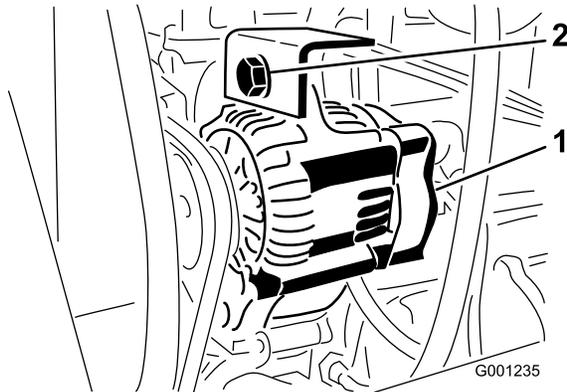

Figure 75
2. Loosen the mounting bolt for the alternator (Figure 75)
3. Increase or decrease the tension on the alternator belt and tighten the mounting bolt (Figure 75).